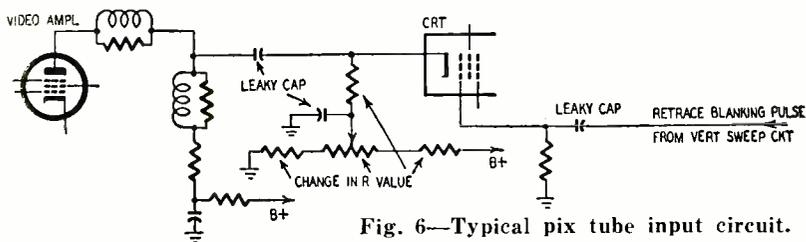

Fig. 6—Typical pix tube input circuit.
d. Picture tube: A number of C-R tube faults produce symptoms which give the effect of weak video. These include: defective tube (low emission causes low brightness, gassy tube causes unfocused beam and poor definition); defect in tube focusing circuit or magnet assembly; incorrect voltage applied to screen grid or focusing electrode resulting in poor contrast; weak ion trap; defect or value change in cathode or grid circuit causing either abnormally low or high brightness on the screen (Fig. 6).